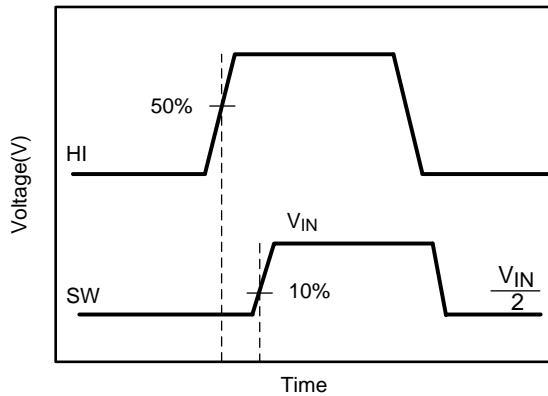
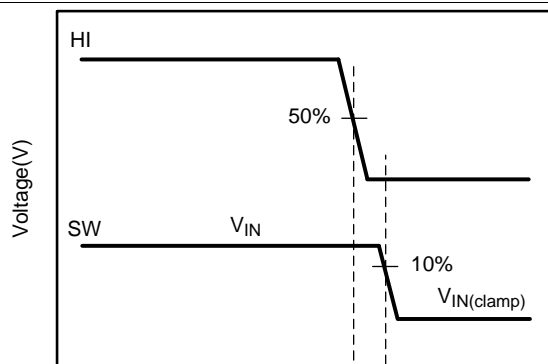
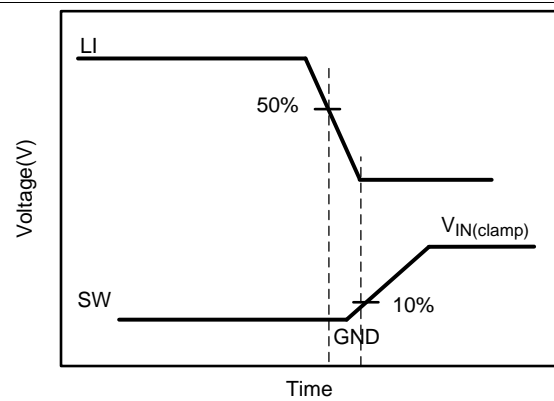

Figure 6. High-Side Gate Driver Turn-On
Figure 8. High-Side Gate Driver Turn-Off
Figure 9. Low-Side Gate Driver Turn-Off
(1) See Propagation Delay and Mismatch Measurement section.
(2) See Figure 6 through Figure 9.
Figure 6 through Figure 8 show propagation delay measurement waveforms. For turn-on propagation delay measurements, the current sources are not used. For turn-off time measurements, the current sources are set to 2 A and a voltage clamp limit is also set, referred to as $V_{IN(CLAMP)}$. When measuring the high-side component turn-off delay, the current source across the high-side FET is turned on, the current source across the low-side FET is off, HI transitions from high-to-low and output voltage transitions from V_{IN} to $V_{IN(CLAMP)}$. Similarly for low-side component turn-off propagation delay measurements, the high-side component current source is turned off and the low-side component current source is turned on, LI transitions from high to low and the output transitions from GND potential to $V_{IN(CLAMP)}$. The time between the transition of LI and the output change is the propagation delay time.